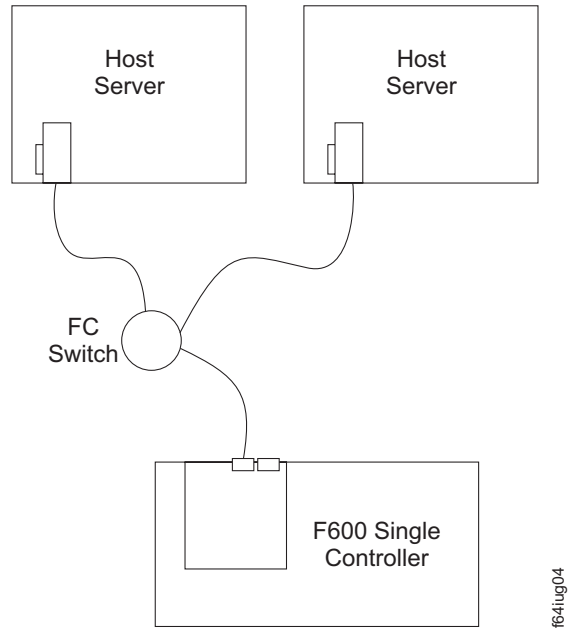

Figure 28. Example of a dual-server, single-SAN fabric zone configuration with one adapter on each server (Model 6LU/6LX)
- Dual-server, single-SAN fabric zone configuration with one adapter on each server (Figure 28 on page 31)